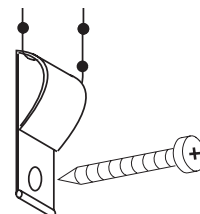

Figure 15
- ⑭ For Bead Chain Clutch-Operated units, place cord tension device on bead chain (see Fig. 15), and install cord tension device to wall, jamb or sill so that the bead chain is held taut enough that children cannot pull it away from the wall or fit their head into the loop. **See safety note on page 1.**